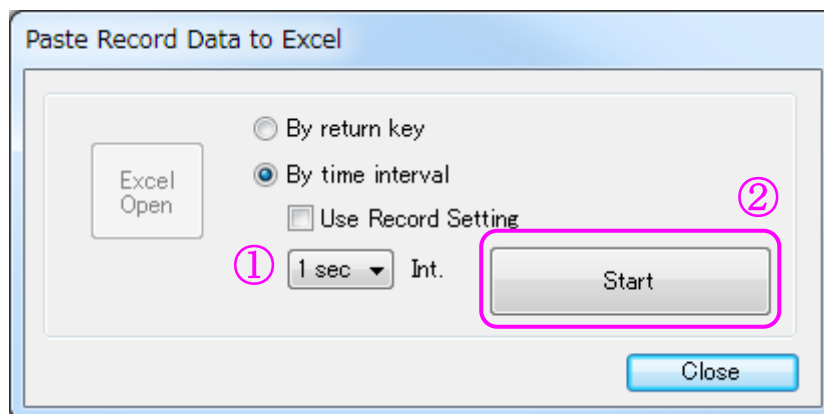

Fig.3-29
(4) At the Paste Record Data to Excel dialog, choose time interval, and click [Start]. (Fig.3-29)